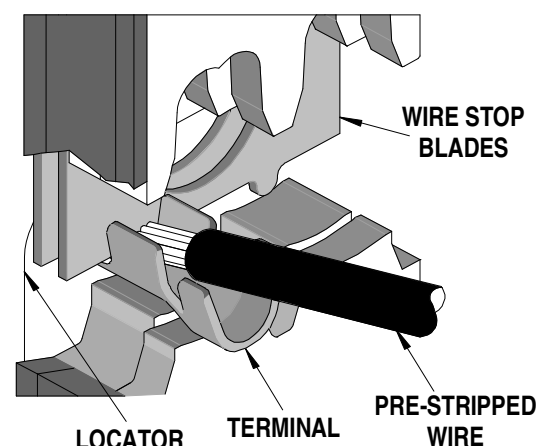
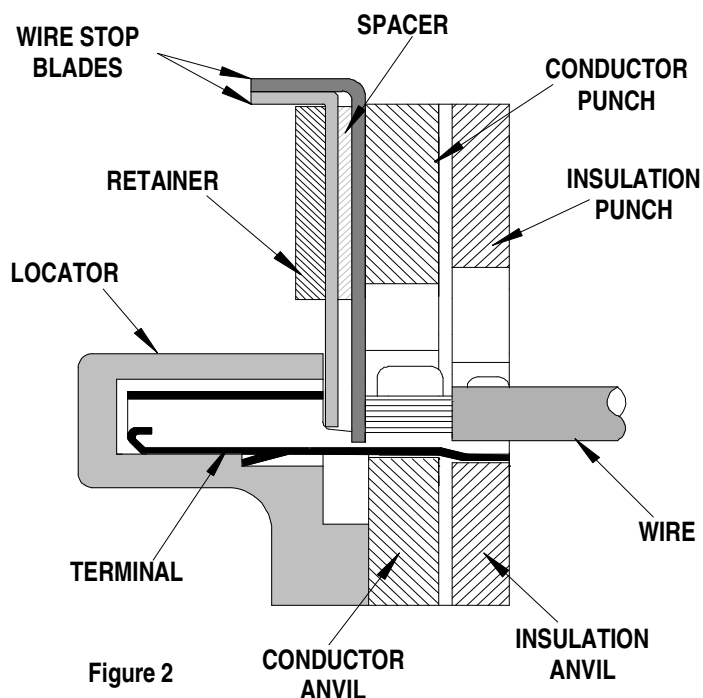

Figure 1
Figure 2
4. Slide the pre-stripped wire into the terminal; make sure to aim the wire brush towards the tip point on the wire stop blade. See Figure 1. Align the wire so that it is parallel and sitting into the terminal. Maintain a light and constant pressure on the wire that is seated in the terminal at all times. (Do not let go of the wire.) Be sure to hold the wire and terminal in place until the terminal is fully crimped. See Figure 2.